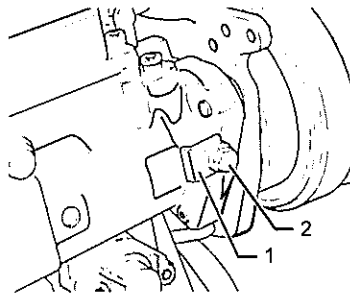

Fig 39 Injection pump – blocking screw
165 After first noting position, cut off cable ties so the wiring loom connections for the 10-pin injection pump socket and engine speed sender (G28) can be freely moved away from the area of work. Slacken the blocking screw (see Fig 39 (2)) on the injection pump.
183 Slacken the blocking screw on the injection pump (see Fig 39 (2)).